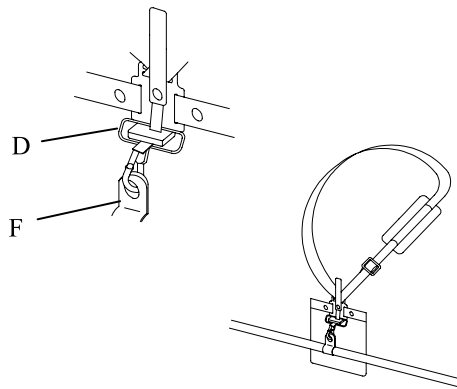

Fig.7-3
- Before starting to work, attach the side hook (D) to the suspension point (F) on the shaft tube. (Fig.7-3)